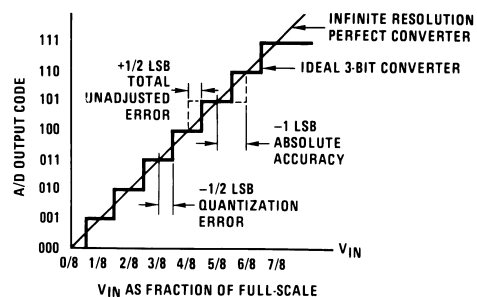
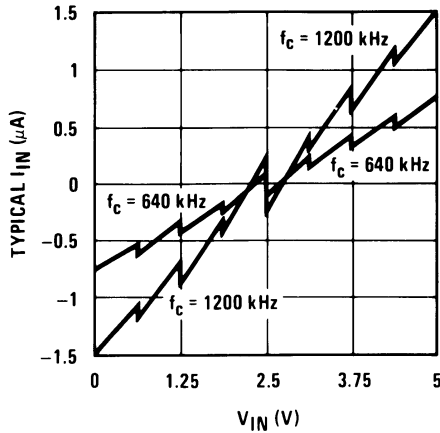

Figure 3. 3-Bit A/D Absolute Accuracy Curve
Figure 6. Comparator I_{IN} vs. V_{IN} ($V_{CC} = V_{REF} = 5V$)
- (1) Total unadjusted error includes offset, full-scale, and linearity errors. See Figure 3. None of these A/Ds requires a zero or full-scale adjust. However, if an all zero code is desired for an analog input other than 0.0V, or if a narrow full-scale span exists (for example: 0.5V to 4.5V full-scale) the reference voltages can be adjusted to achieve this. See Figure 13.
- (2) Two on-chip diodes are tied to each analog input which will forward conduct for analog input voltages one diode drop below ground or one diode drop greater than the V_{CC} supply. The spec allows 100 mV forward bias of either diode. This means that as long as the analog V_{IN} does not exceed the supply voltage by more than 100 mV, the output code will be correct. To achieve an absolute 0 V_{DC} to 5 V_{DC} input voltage range will therefore require a minimum supply voltage of 4.900 V_{DC} over temperature variations, initial tolerance and loading.
- (3) Comparator input current is a bias current into or out of the chopper stabilized comparator. The bias current varies directly with clock frequency and has little temperature dependence (Figure 6).
The average value of the comparator input current varies directly with clock frequency and with V_{IN} as shown in Figure 6.